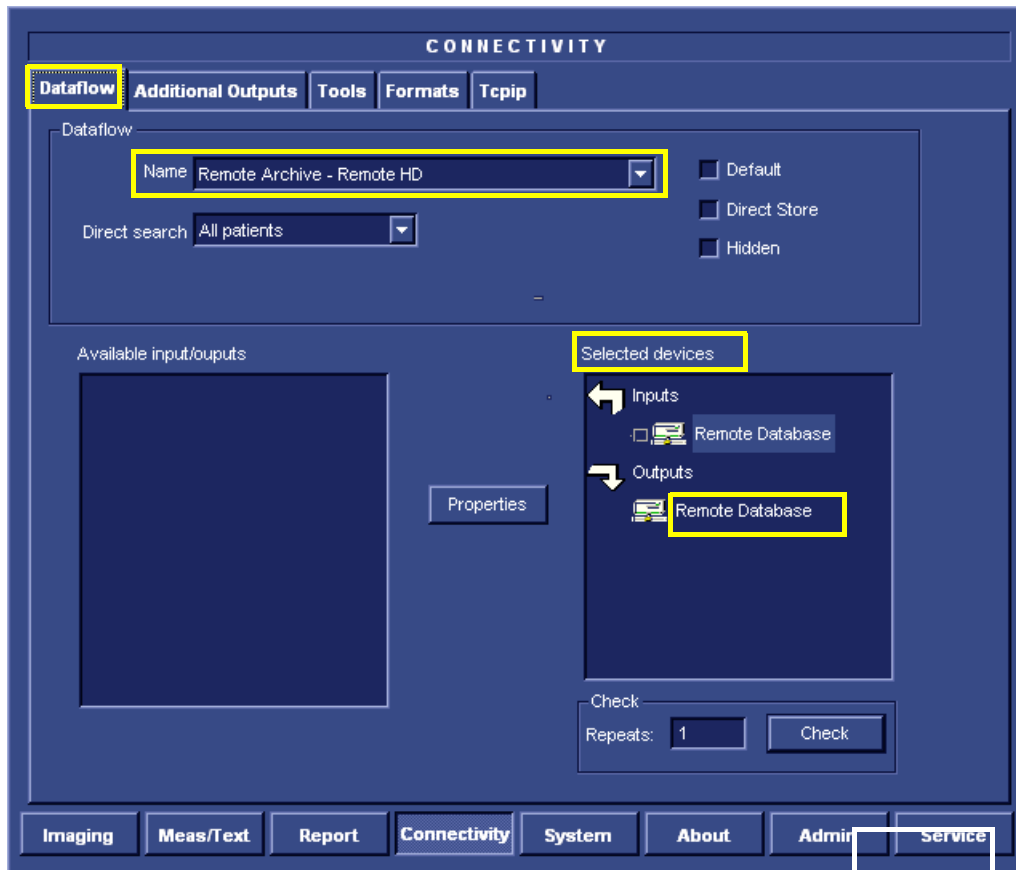

Figure 4-7 Dataflow showing "Remote Database" as the Selected Device
- 2.) Click **Connectivity** and select **Dataflow** - see Figure 4-7.
- 3.) From the Dataflow **Name** field scroll-down list (Figure 4-7), select a dataflow that the user works with in day-to-day operations.
- 4.) Under **Selected devices** (Figure 4-7), select the appropriate device.